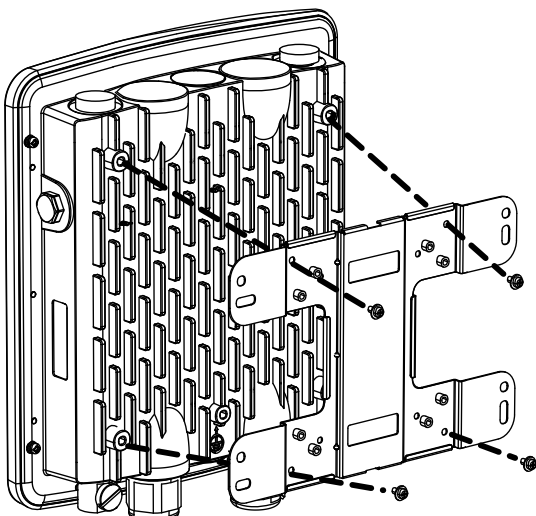

Figure 13: Mounting the base plate
- Depending on the orientation of the pole you wish to install the AP onto (horizontal or vertical), attach the pole mounting bracket to the mounting base plate accordingly using the screws. Refer to figure 13 for the proper position of the pole mounting bracket for each direction.